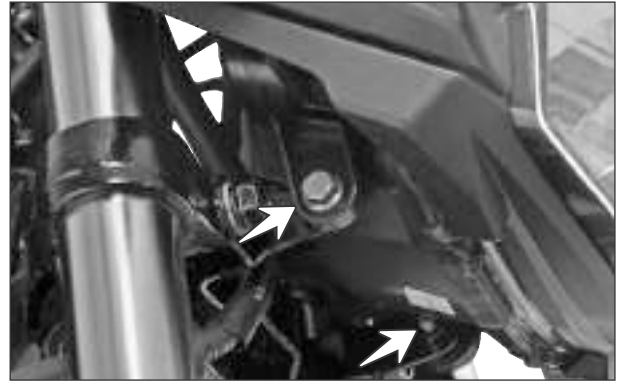

Fig. 6.67
- Remove the hexagonal flange bolt (M6x16 - 2 nos.) from the bottom mounting housing head lamp (both LH and RH) while holding the housing by one hand. (Fig. 6.67)